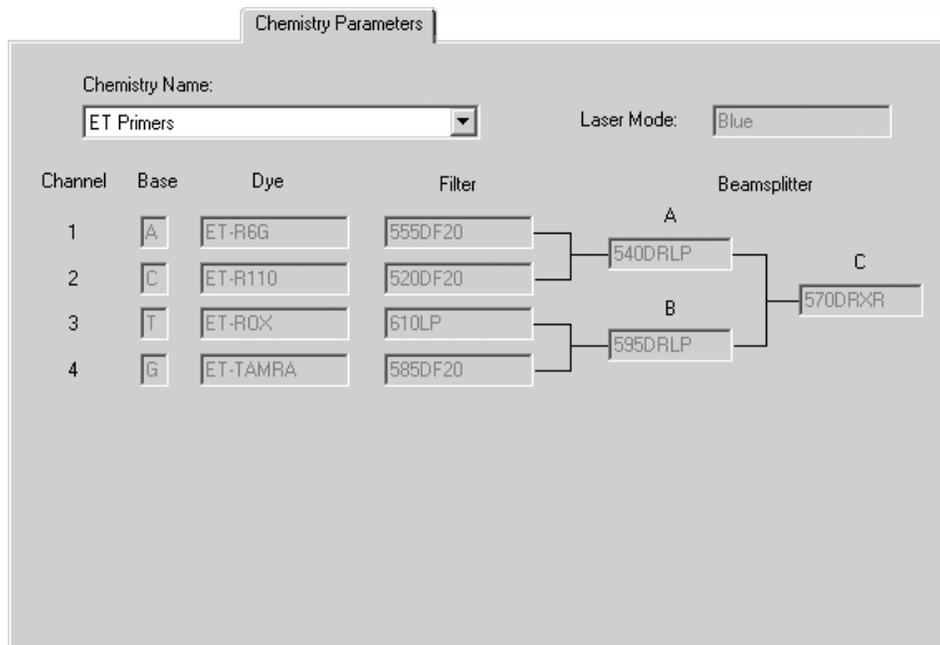

Figure 6-2. The Chemistry Parameters tab of the Plate Setup window for sequencing.
- Chemistry Parameters tab (figure 6-2)
Chemistry Parameters (figure 6-2)	<p>To specify the chemistry parameters, you specify or select a predefined chemistry name. Each chemistry name has an associated set of parameters, including laser mode, base order and dye names, the filter names, and the beamsplitters used for the run. The laser mode and base order are required fields for sequencing.</p>
- In the **Chemistry Parameters** tab (figure 6-2), select a name from the **Chemistry Name** list.